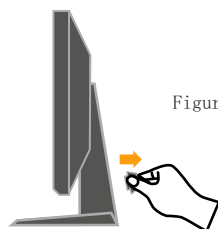
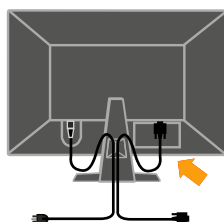

Figure 1
Figure 2
Step 2: Press the cable clip upwards and remove it as shown in Figure 2.
First take out the cable clip as shown in Figure 1. After connecting the power cord and the signal cable, put the remaining cable in the back of the support garnish as shown in Figure 2. Use the cable clip to wrap the remaining cable and position them in the slot of the support garnish as shown in Figure 3.